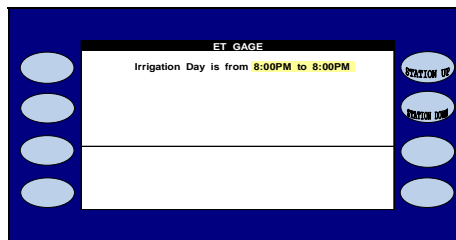

Figure 5.3
2.  Press the **ET GAGE** Menu key. The ET GAGE screen is displayed (Figure 5.3).